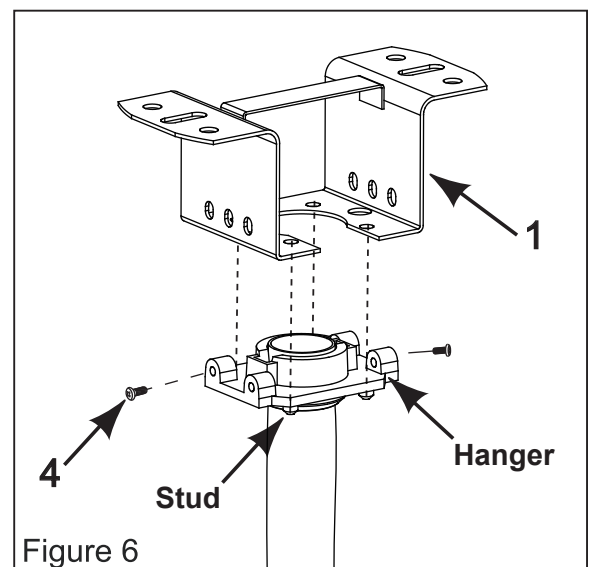

Figure 6
6. Carefully lift the fan, and set the downrod & hanger assembly on the hanger bracket attached to the ceiling joist. Studs on the hanger are properly aligned with the holes on the hanger bracket. 2 screws(M4×10mm) fix it strongly. (Figure 6)